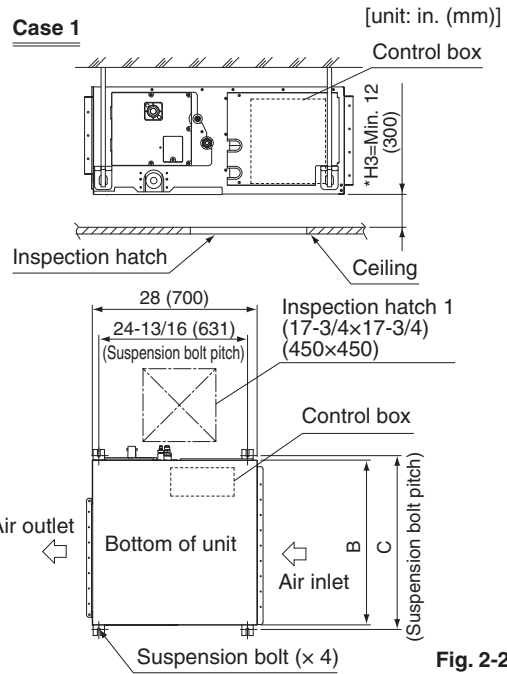

Fig. 2-2
1. Inspection hatch 1 (17-3/4 × 17-3/4 (450 × 450)) for the control box and a minimum space of 12 in. (300) for the lower part of the product. (Refer to Fig. 2-2)